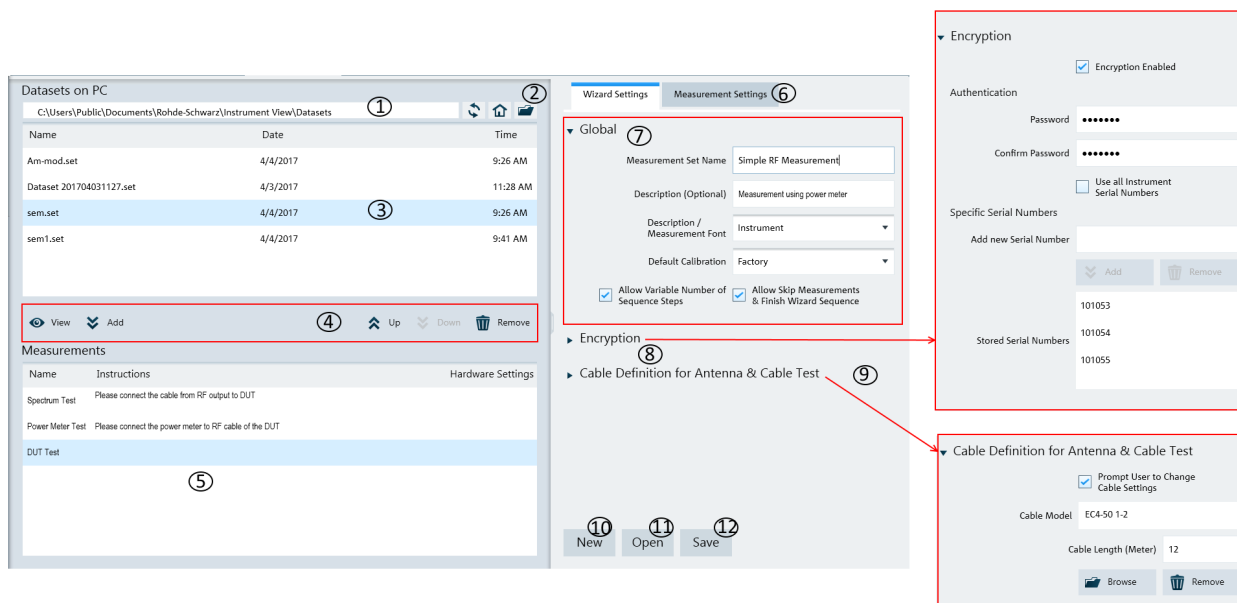

Figure 4-33: Wizard editor
The measurement table list forms the measurement sequence in the wizard set. See item 5 in Figure 4-33
The "Wizard " editor allows you to open, edit and save the measurement wizard set. See Figure 4-33.
To arrange the measurement sequence in the wizard set, double clicked or "Add" the desired dataset from the PC folder directory to the measurement table list. See index 4 and 5 of Figure 4-33.
Navigate from the list of datasets in the measurement table list (see index 5 of Figure 4-33) and select the desired dataset for configuration.